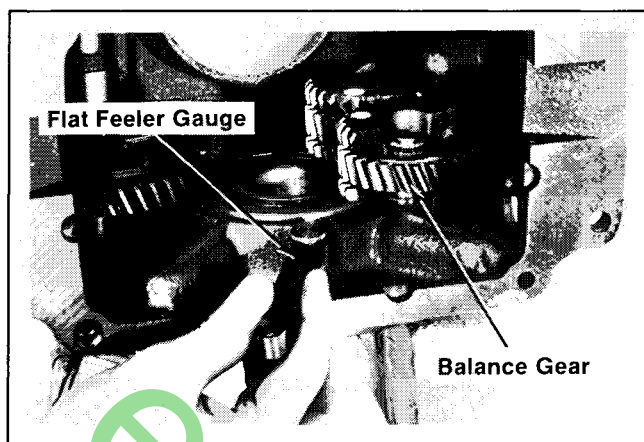

Figure 12-10. Measuring Balance Gear End Play.
2. Check end play with a flat feeler gauge. Refer to Figure 12-10. Recommended end play is .002" / .010". If end play is not within range, install or remove .005" and .010" spacers*, as necessary.